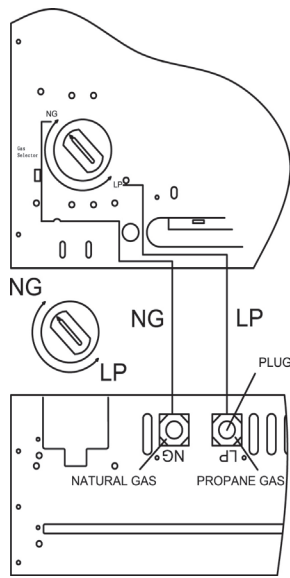

Figure 15
3. For NATURAL GAS, press knob using a flat screwdriver with a blade with thickness of a quarter and turn knob clockwise  until the knob locks into the NG position (see Figure 15). Fuel selection device must be locked in the NG position. Do not operate heater between locked positions!